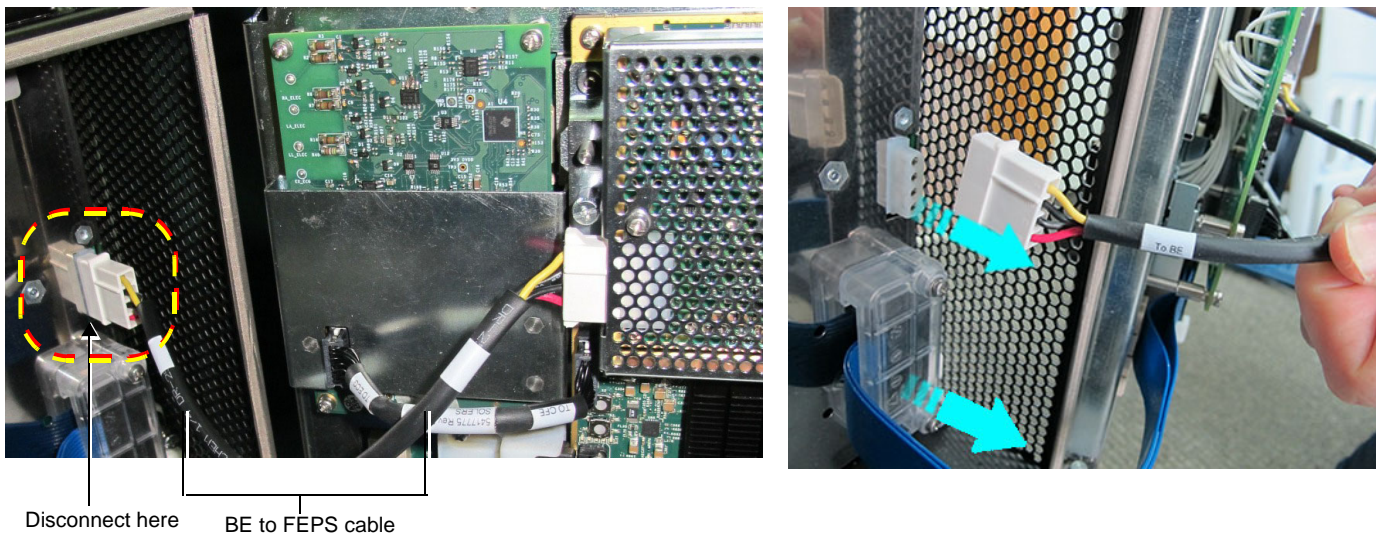

Figure 8-148 Disconnecting BE-to-FEPS Cable from Back End
Refer to Figure 8-148 below.
- 4.) Disconnect the BE-to-FEPS cable from the Back End (also shown in Figure 8-148 below).
- 4) Reconnect the BE-to-FEPS cable to the BEP - refer to Figure 8-148.